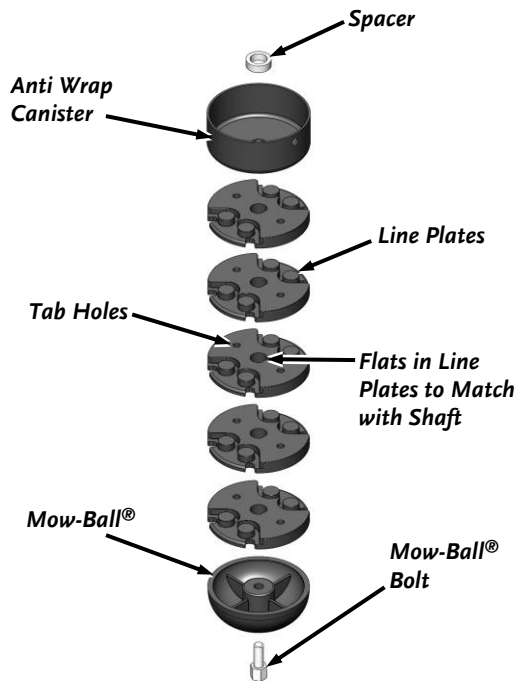

Figure 26
- Slide the Line Plates, Anti Wrap Canister and Spacer off the Shaft (**Figure 26**).
Improper installation can cause damage to the trimmer bearings. Follow these directions carefully to protect your machine from damage. Reassemble the components in the order shown in **figure 26**.
- Place the Spacer and Anti Wrap Canister (with the lip facing up) onto the Shaft (**Figure 26**).